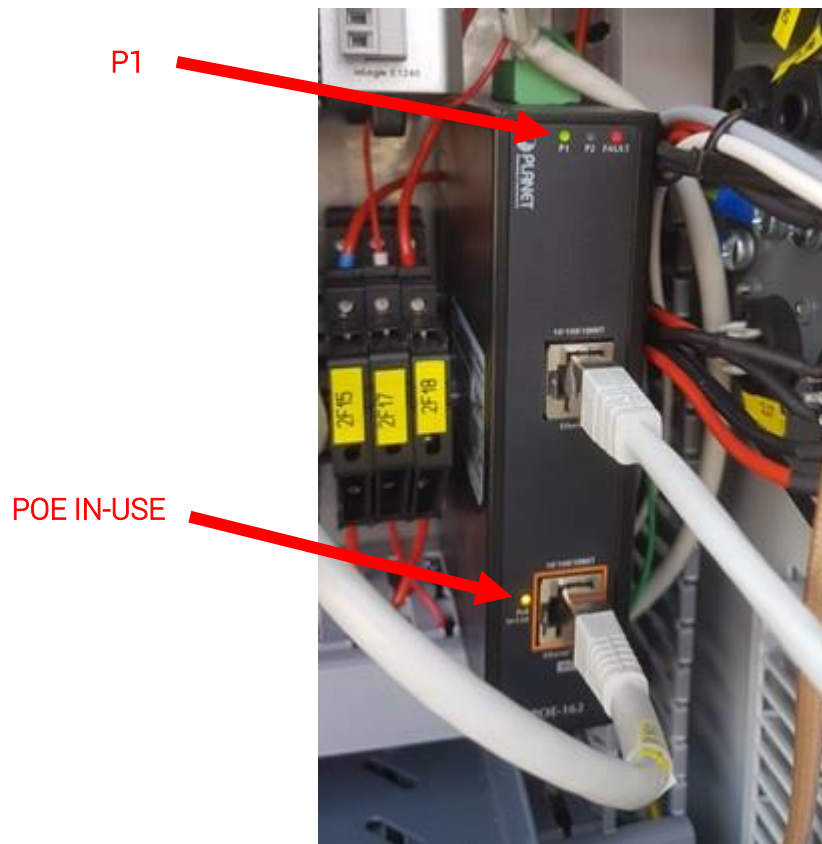

Figure 30 The P1 and POE In-Use indicator LEDs
8. Make sure that the POE injector Green LED "P1" is turned on (see Figure 30).
9. Make sure that the POE injector Orange LED "POE IN-USE" is turned on (see Figure 30).